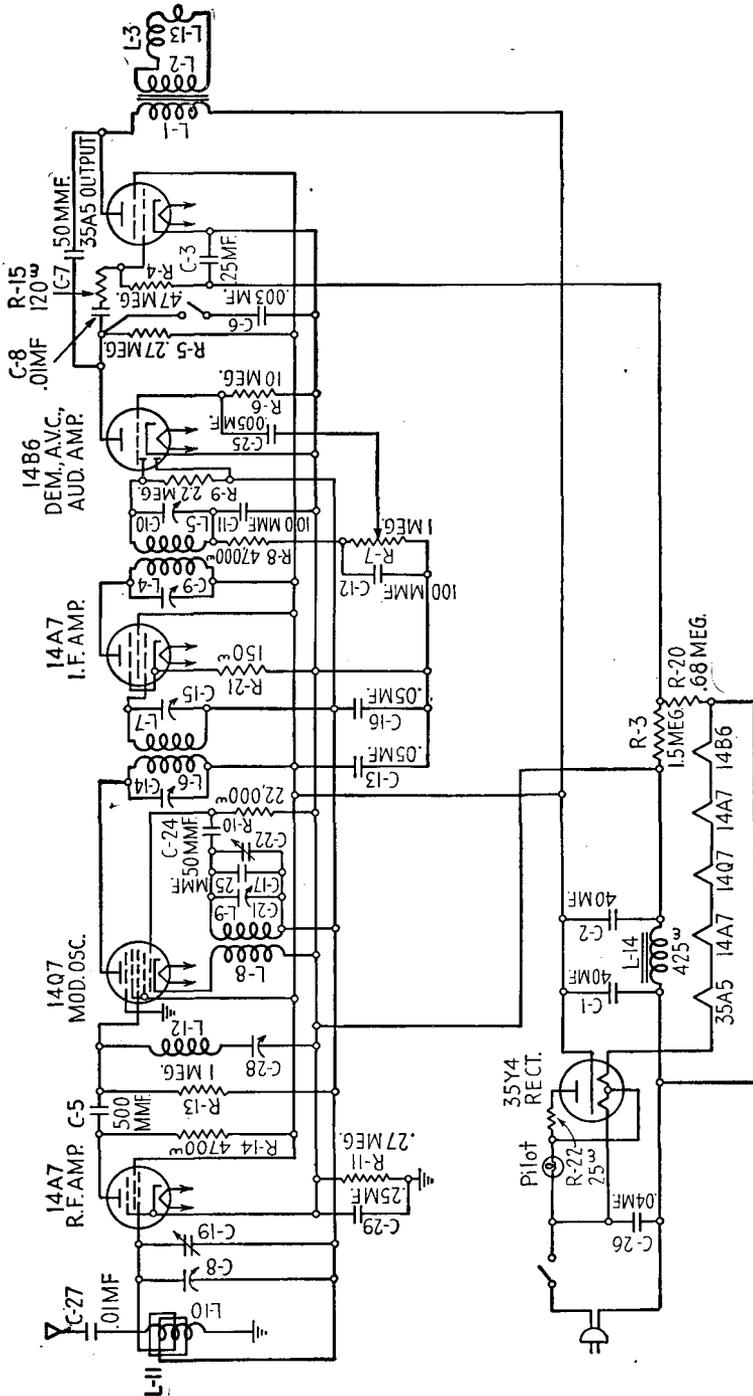

Fig. 16-10.—Schematic diagram of the Stromberg-Carlson No. 1000 receiver.
In loop receivers, the trap is usually placed in the converter signal grid circuit, where it serves a similar purpose by providing a low-impedance path to ground for signals at the intermediate frequency, which may be present in the converter signal grid circuit. Coil $L-12$ and condenser $C-28$ make up this type of wave trap in the receiver of Fig. 16-10.
RF Stage Followed by an Untuned Converter.—Many receivers employ an RF stage that is resistance-coupled to the converter signal grid. This arrangement gives the receiver some of the advantages of an RF stage while using only two tuned circuits: the RF grid and the oscillator. The Stromberg-Carlson No. 1000 receiver shown in Fig. 16-10 uses this type of circuit.
The coupling between the RF and the converter tubes consists of RF plate load $R-14$, coupling condenser $C-5$, and converter signal grid load $R-13$. The circuit composed of $L-12$ and $C-28$ in the converter signal grid is a wave trap tuned to the intermediate frequency of the receiver. Similar circuits in other receivers use different values for the components in the resistance-coupling circuit. The plate load varies from 5,000 to 10,000 ohms. The coupling condenser varies from 0.0001 to 0.0005 mfd. The grid-load resistor is often smaller than the one shown in the diagram, 25,000 to 100,000 ohms being more usual. Another circuit difference is that some receivers bring the grid-load resistor to ground or common negative rather than to the AVC bus, as shown in Fig. 16-10.
4. The receiver of Fig. 16-10 gives poor reception in the customer's home although it operates normally on the service bench. A long out door antenna was suggested and installed. The reception was greatly improved but the receiver is now troubled with code interference all over the tuning range. What is likely to be wrong and how should it be checked?